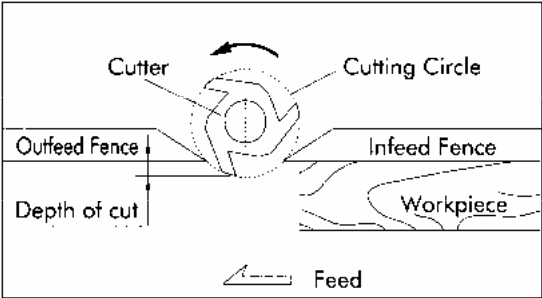

Fig. 4.1
1. For normal work, where a portion of the original edge of the stock is not touched by the cutter, both the infeed and outfeed fences are in a straight line, as shown in Fig.4.1.